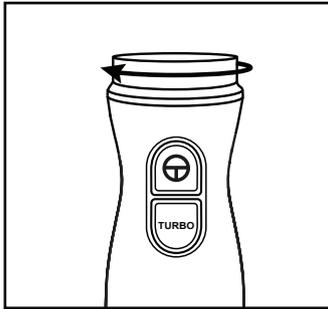
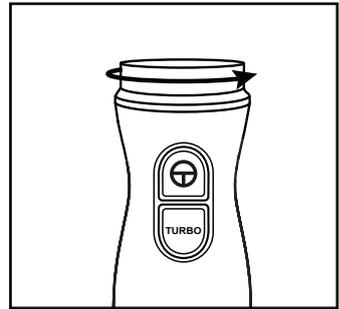

Fig. 1
Fig. 2
- 2) Select the desired speed level: Each short clockwise turn of the speed regulator **1** increases the speed by one level (Fig. 1). Turn the speed regulator **1** in the opposite direction, i.e. anticlockwise, to reduce the speed by one level at a time (Fig. 2). The set speed (SPEED) 1-5 is shown on the display **6**.